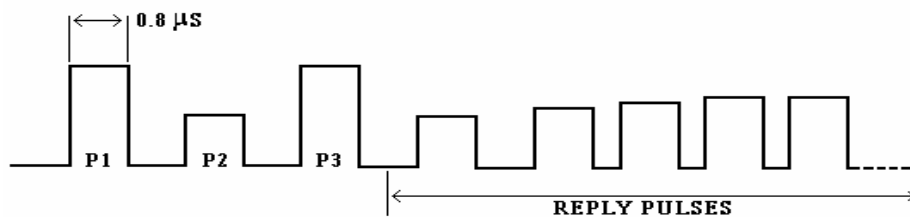

Figure 4. Pulse train (example).
(4) Select radar test set **Menu 11, MODULATION to ON**. Set TI **MODE** switch to **1, 2, 3/A, and C**, and adjust oscilloscope to observe presence of complete interrogation pulse trains (see fig. 4), making sure that TI **ACCEPT** lamp is lit in each mode.
(5) Set TI **MODE** switch to **1**.
(6) Set oscilloscope for a convenient display of the first 3 pulses of the interrogation pulse train.